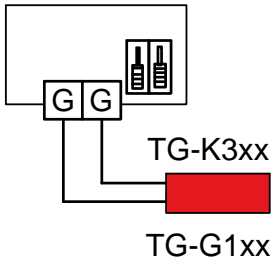

Figure 3: Switch setting and wiring for internal set-point and external sensor\*
**Note:** When using an external sensor, the equivalent sensor function in the EVR must be disabled. This is done by setting the DIP-switches to the right of the terminal strip according to figure 3.